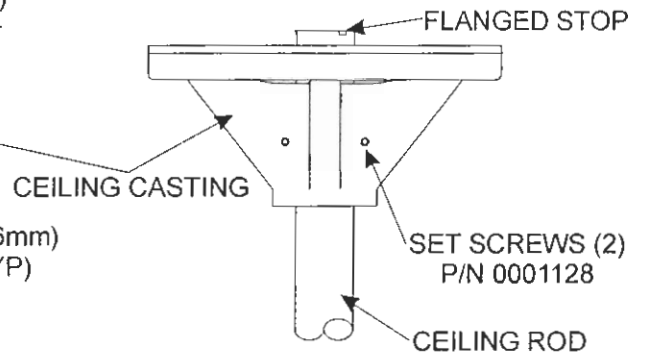

Figure 5
2. Insert the Ceiling Rod through the Ceiling Casting to the Flanged Stops at the end of the rod (see Figure 5). Tighten one of the two Ceiling Casting set screws with the hex key provided.